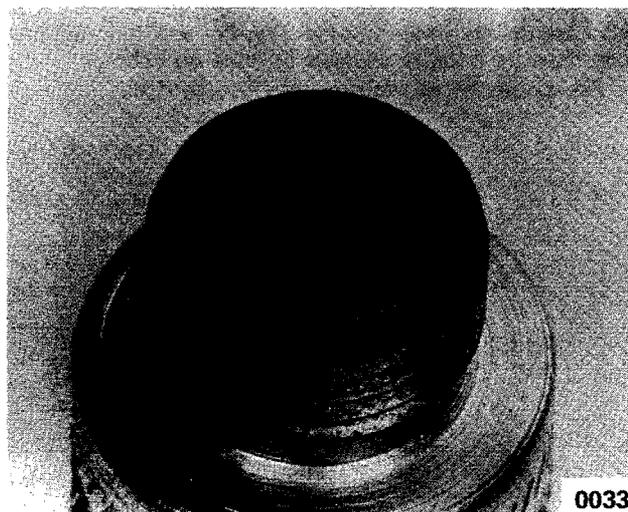

FIG. 40
- b. A dark, block or sootish coloration, or wet appearance, ordinarily indicates the heat range as being too cold. Black, sooty deposits on the entire firing end of the spark plug result from incomplete combustion due to an overly rich air-fuel mixture, incorrect choke setting, or misfiring caused by faulty ignition components. (Fig. 40).